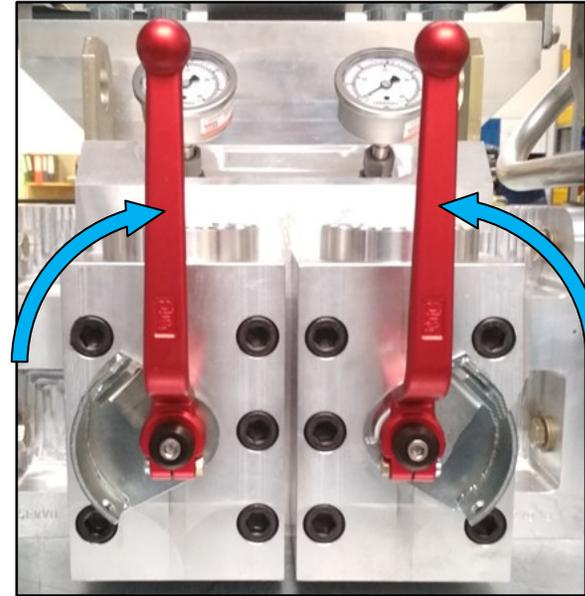

Figure 4-1. VariStroke Isolation Valves in Vertical Position (isolating)
1. Shut-off both isolation valves by turning the cranks to the vertical position (Figure 4-1).